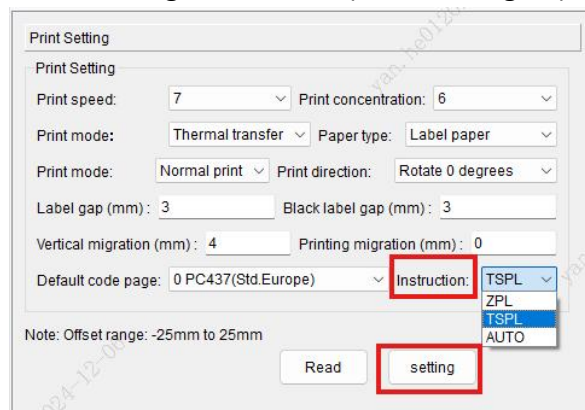

Fig.17
- ⑫ **Instruction Set:** Currently supports TSPL, ZPL, AUTO (automatic recognition of both commands) three modes, Please select as needed to ensure the current printer operates with matching instructions (shown in Fig.17).